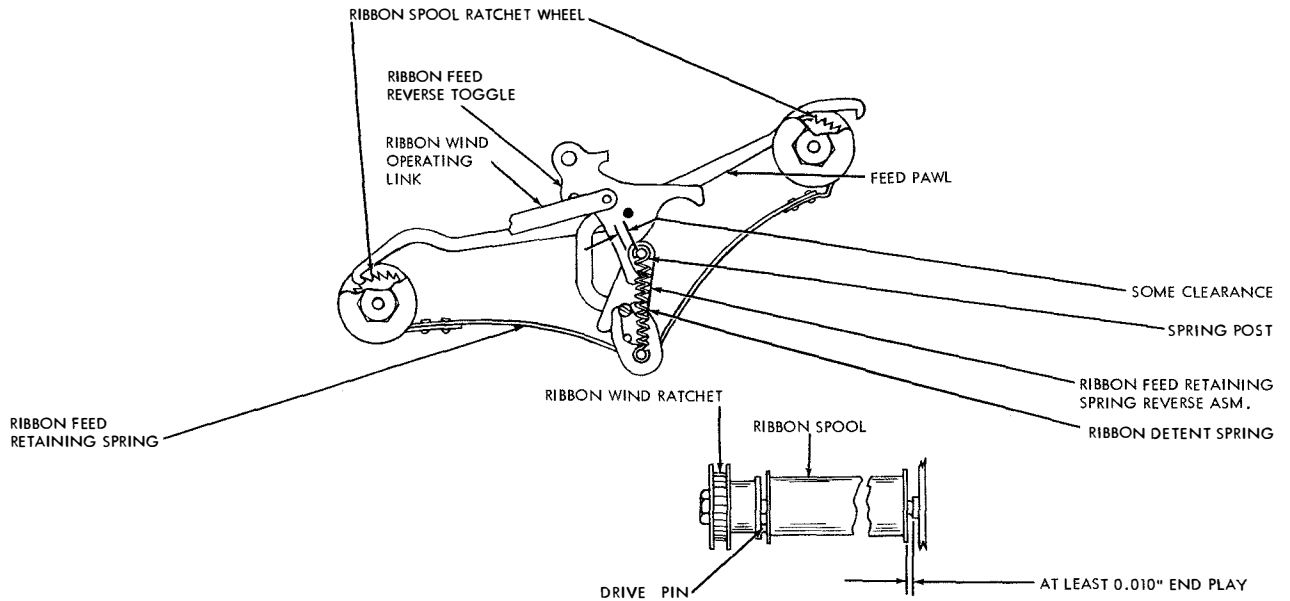

Figure 7-22. Ribbon Feed
(10) HOUR CHANGE. (See figure 7-22.)—The hour change should occur between the 59th and 60th minute. To adjust, loosen the minute drive gear setscrew and rotate the minute drive ratchet until the hour wheel is advanced by the cam on the ratchet shaft. Set the minute wheel at "00" and tighten the setscrew in the minute drive wheel.
(15) RIBBON FEED AND RIBBON REVERSE. (See figure 7-22.)—The ribbon spools should have at least 0.010 end play and the ratchet wheel should turn freely. To adjust, replace the ribbon shift toggle spring if it is weak.